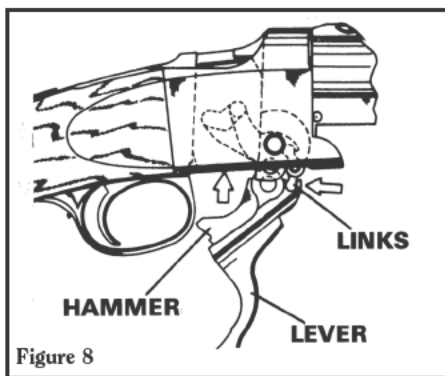

Figure 8
3. Position hammer in the lever and engage the lever and link as shown in Figure 8.